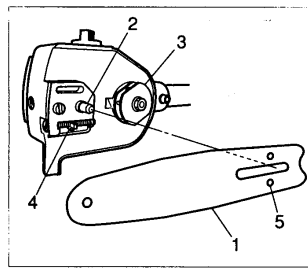

Fig. 1-9
3. Install, the chain bar (1) onto the bolt (2), then push it toward the sprocket (3) as far as it will go. Make sure that the boss of chain tension adjusting bolt (4) fits into the hole of the bar (5). (Fig. 1-9)